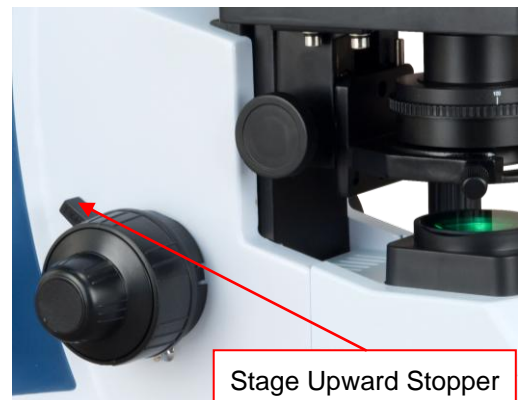

Fig.5
- b) To prevent your specimen slide from making contact with an objective, raise the stage to its highest position without contacting the 100X objective; then tighten the stage upward stopper (**Fig. 5**). Give the stage a tiny extra moving space to ensure the objective can be focused every time.